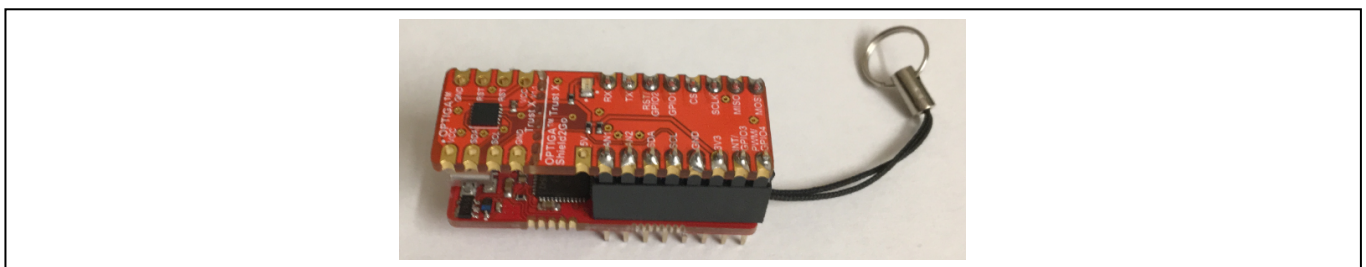

Figure 12 OPTIGA™2Go Shield Connected to XMC2Go
- Assemble the OPTIGA™ 2Go Shield on top of the XMC2Go board, like showing in **Figure 12.**